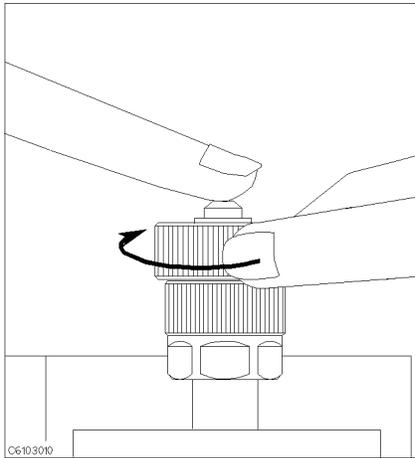

Figure 3-8.
9. Connect the 0 Ω termination on the APC-7[®] connector as shown in Figure 3-8.